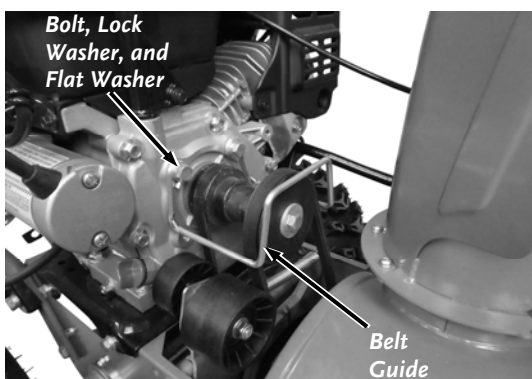

Figure 43
2. Remove the two Bolts, Lock Washers and Flat Washers that secure the Belt Guide to the Engine using a 13mm Wrench and remove the Belt Guide (**Figure 43**).